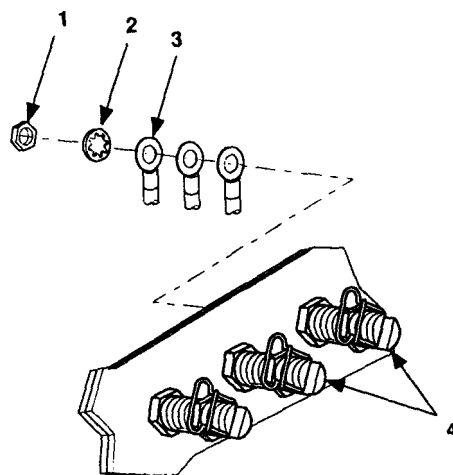

Figure 5-12. Switch Box Load Terminals.
4. Remove nut (1, figure 5-12), internal tooth washer (2), and W9 harness lead (3) from load terminals L0 and L3 (4).
5. Install W9 harness leads (3, figure 5-12), internal tooth washer (2), and nut (1) on load terminals L0 and L3 (4).